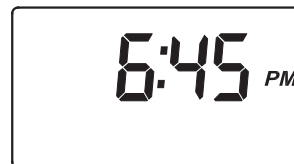

FIG. 21
2. The flashing "VAC" on the display should be replaced by the normal time of day screen, as shown in Figure 21.